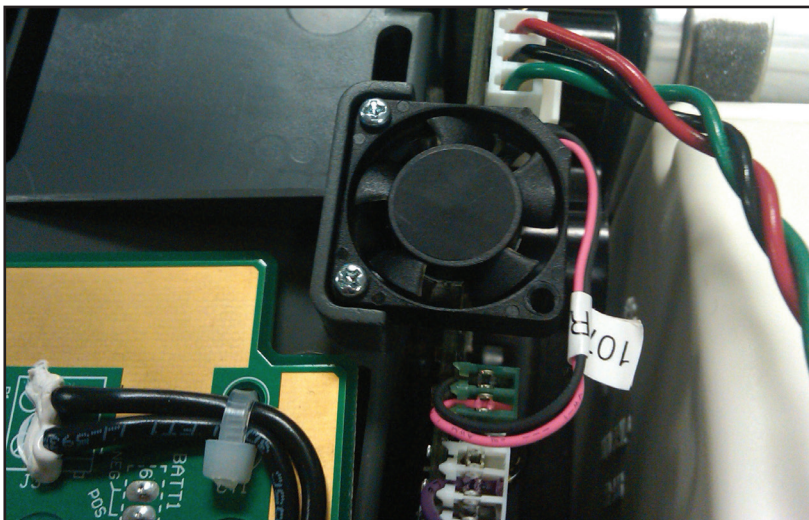

Fig 69: Cooling Fan placement
1.8 Install the Cooling Fan (PN: 1074-SEQ) with the 2 screws (PN: 6961-210-SEQ) and lightly tighten as shown in Fig 69. Apply Loctite 425 thread locker on the tips of the threads before installing.